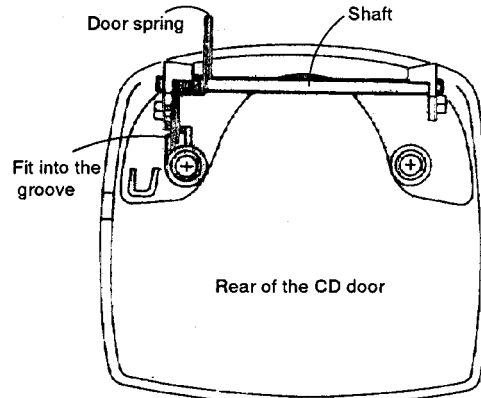

Fig. 2-9
(see Figures 2-9 to 2-13)
- 1) Reattach the shaft and door spring to the CD door as shown in Fig. 2-9.